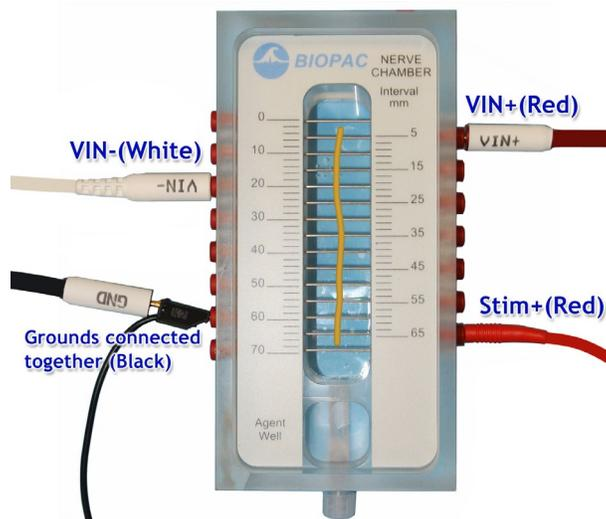

Figure 18
1. Move both the VIN+(red) and the VIN-(white) leads an equal distance (**d**) towards the Stim+ lead as in the example setup shown in Figures 18 and 19.
1. Make sure the VIN+ lead is as far from the Stim+ lead as possible but still in contact with the nerve (see Figure 18).